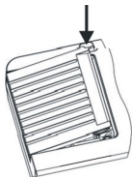

Fig. 1
Fig. 1 top panel
Step 1: According to fig.1, Push the tray along the arrow pointed direction to pop up the paper cabinet cover. And take out paper axis (see fig.1)